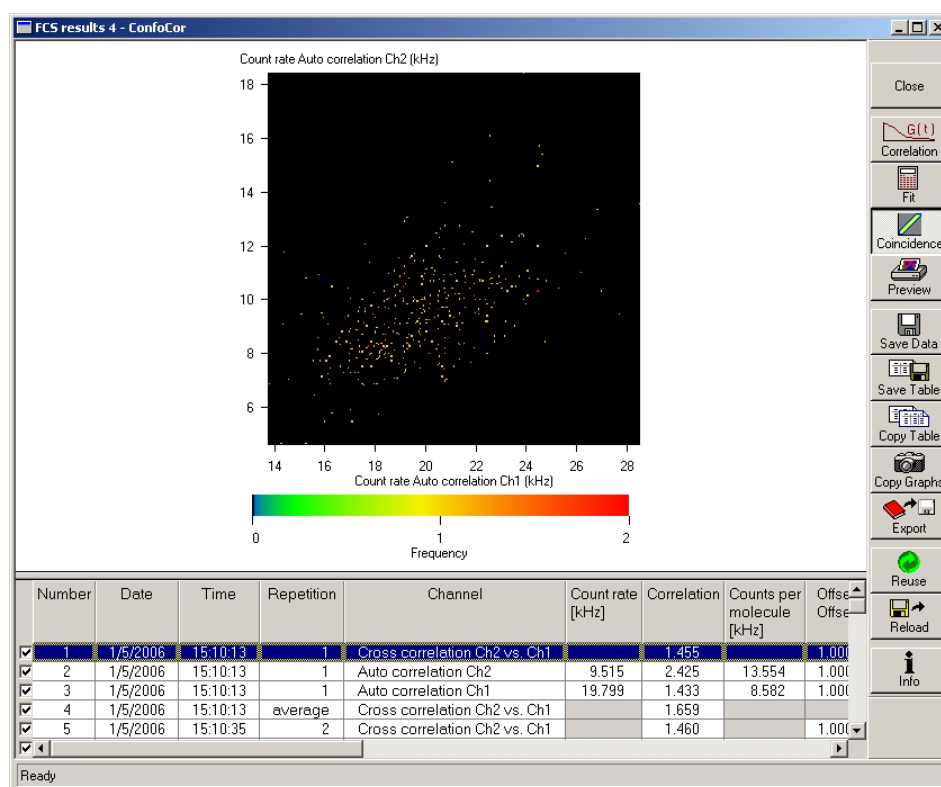

Fig. 4-124 Coincidence diagram window
- The coincidence analysis generates a two-dimensional color-coded count rate histogram (Fig. 4-124).